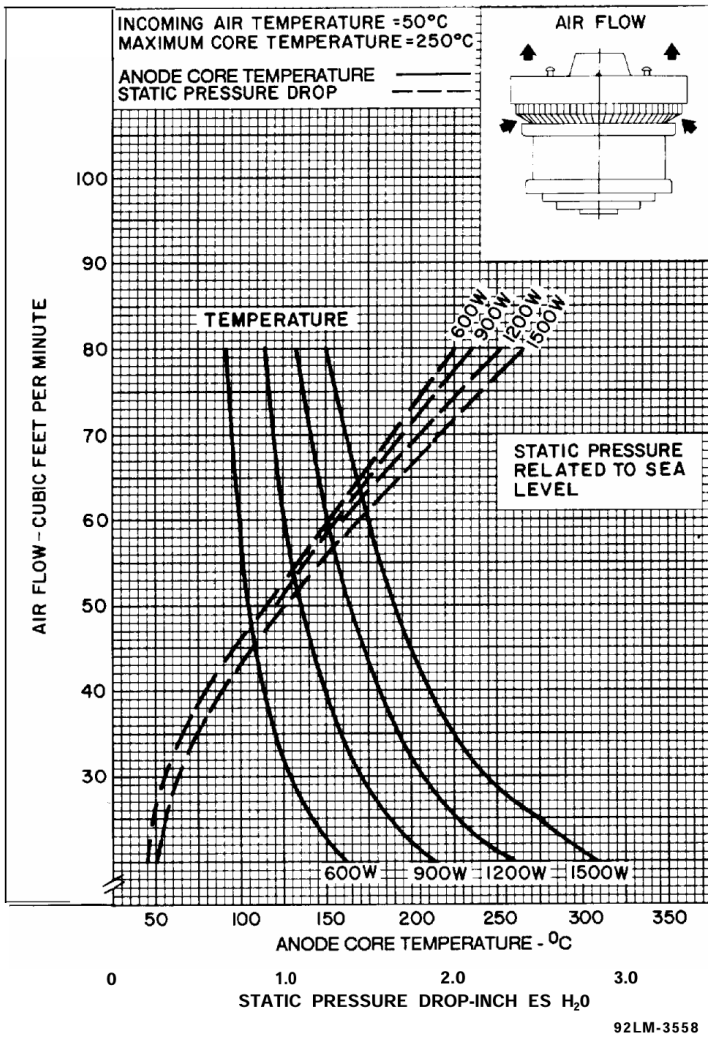

Figure 6 - Cooling Characteristics
Cooling air flow is required to limit anode-core and terminal-seal temperatures to values that will assure long, reliable tube life. Sufficient air flow must be directed past each of these terminals to keep temperatures well below the absolute-maximum limit. A safety factor of 25° to 50 °C should be applied to compensate for all probable system and component variations throughout life. A blower of sufficient capacity must deliver cooling air to the anode radiator and to the terminal seals at all times that electrode voltage, even just heater voltage, is applied to the tube. For best tube life, cooling air flow should continue for at least three (3) minutes after all electrode voltages have been removed. See **Figure 6** Cooling Characteristics, For further information on forced-air cooling, refer to TP-118.